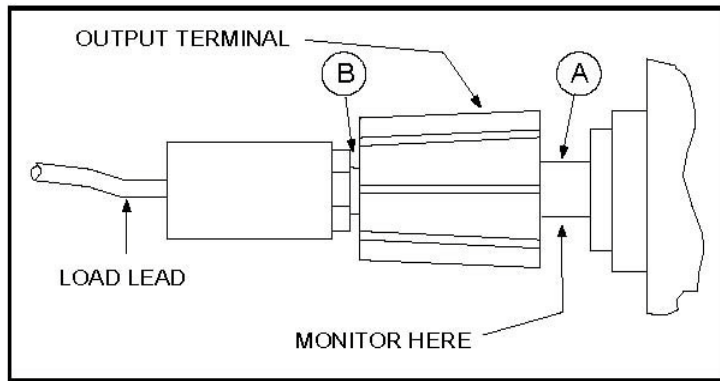

Figure 5-2 Front panel terminal connections
When performance measurements are made at the front terminals (Figure 5-2) the load should be plugged into the front of the terminals at (B) while the monitoring device is connected to a small lead or bus wire inserted through the hole in the neck of the binding post at (A). Connecting the measuring device at (B) would result in a measurement that includes the resistance of the leads between the output terminals and the point of connection.